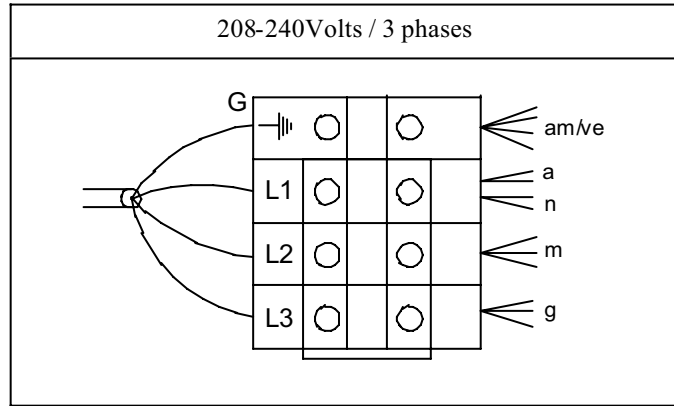

Fig.6
- To access to the electrical terminal block (E) (Fig. 1), remove the top cover. Connect the wires as shown in figure 6. Insert the power cord through the cord guide on the back of the machine and make sure to leave enough cable. Tighten the connections.